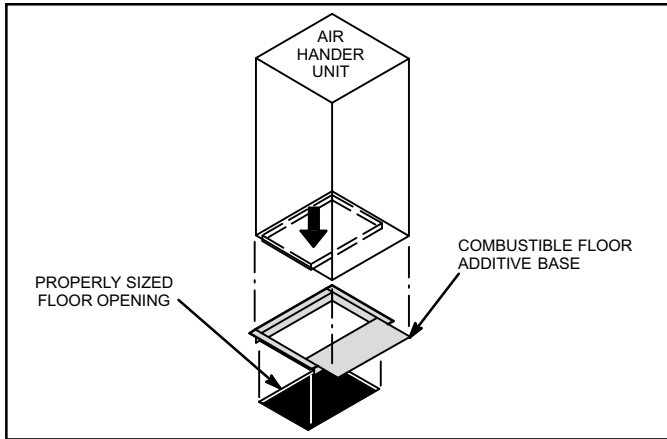

Figure 9. Downflow Combustible Flooring Base
8. For downflow installation on combustible flooring, an additive base must be used as illustrated in figure 9 on page 9. See *CBX32MV Engineering Handbook for downflow combustible flooring base kits available for this air handler.*